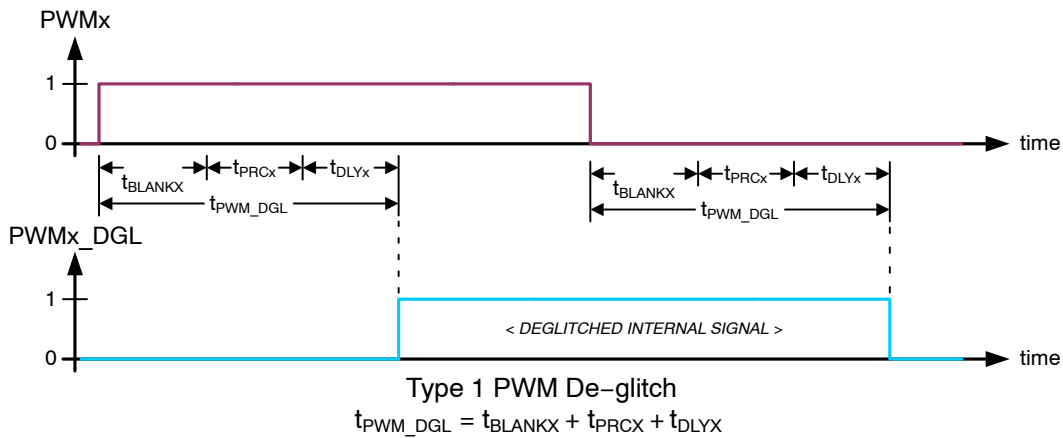
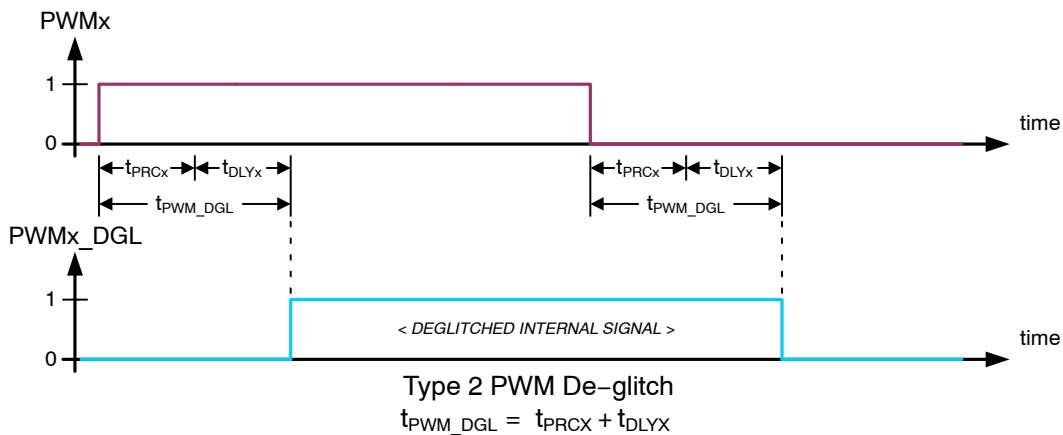

Figure 10. Type 1 PWMx Input De-glitch – CR14.DGLx = 0
Figure 11. Type 2 PWMx Input De-glitch – CR14.DGLx = 1
When multiple PWMx inputs are needed to be active, the scheduled PWM signals should be offset in time to avoid degradation of the VDS overload detection due to crosstalk (see § *Overload Protection*). The minimum offset should be based on the tPWM\_DGL times appropriate for the respective channels (see § *Switching Behavior of Half-bridge Drivers*, Figure 10 and Figure 11).
- adaptive PWM input de-glitch construction when in half-bridge configuration is selected by DGLx[6:0] bits (see Figure 10, Figure 11, Table 21 and Table 22).
When operating HB1...HB7 in PWM mode and in half-bridge configuration, type 1 de-glitch is selected when CR14.DGLx = 0 (see Figure 10) and the adapted time is given by:
Type 2 de-glitch is selected when CR14.DGLx = 1 (see Figure 11) and the adapted time is given by:
- the  $PWMx\_DGL$  resulting from the channel's operating configuration (see § *Switching Behavior of Half-bridge Drivers*, Figure 10 and Figure 11);